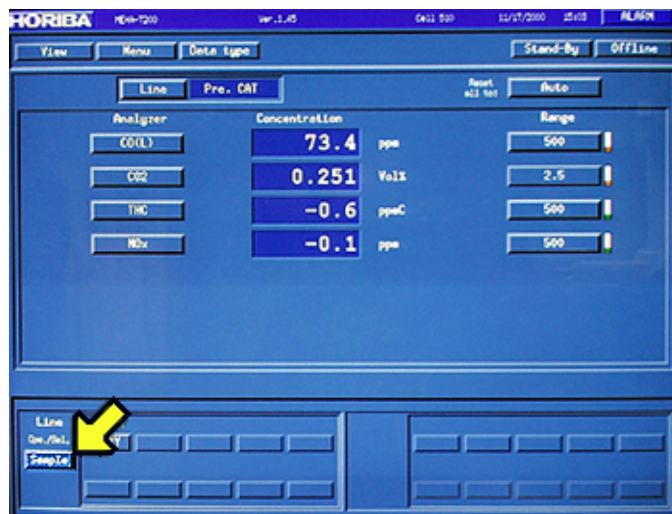

Figure 5
- 108 On the Horiba computer screen, select "Sample" See the arrow in Figure 5.